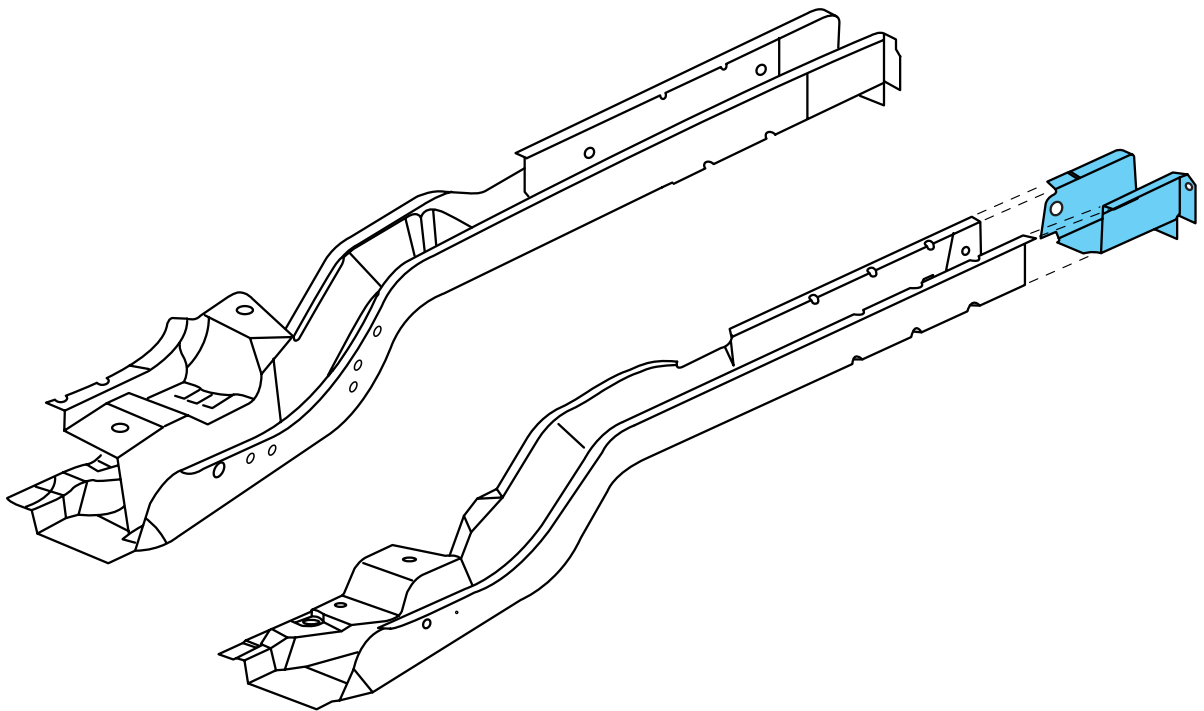

Fig. 1-20 — Rear Rail Panels
The rear rail is available as a complete assembly. It consists of an outer panel, two inner reinforcements, a rail extension, and all necessary component mounting brackets (Fig. 1-20). The outer panel and rear mounting brackets are also available separately to facilitate sectioning. Additionally, there is a crossbar that connects the two rear rails for added strength and rigidity.
- Using the original part as a guide, mark a line on the service rail 35 mm (1-5/16 in) forward of the cut made to the original part; this should be approximately 535 mm (21 in) without the extension attached to the rail. This will provide an overlap for welding the service section (see Fig. 1-20).